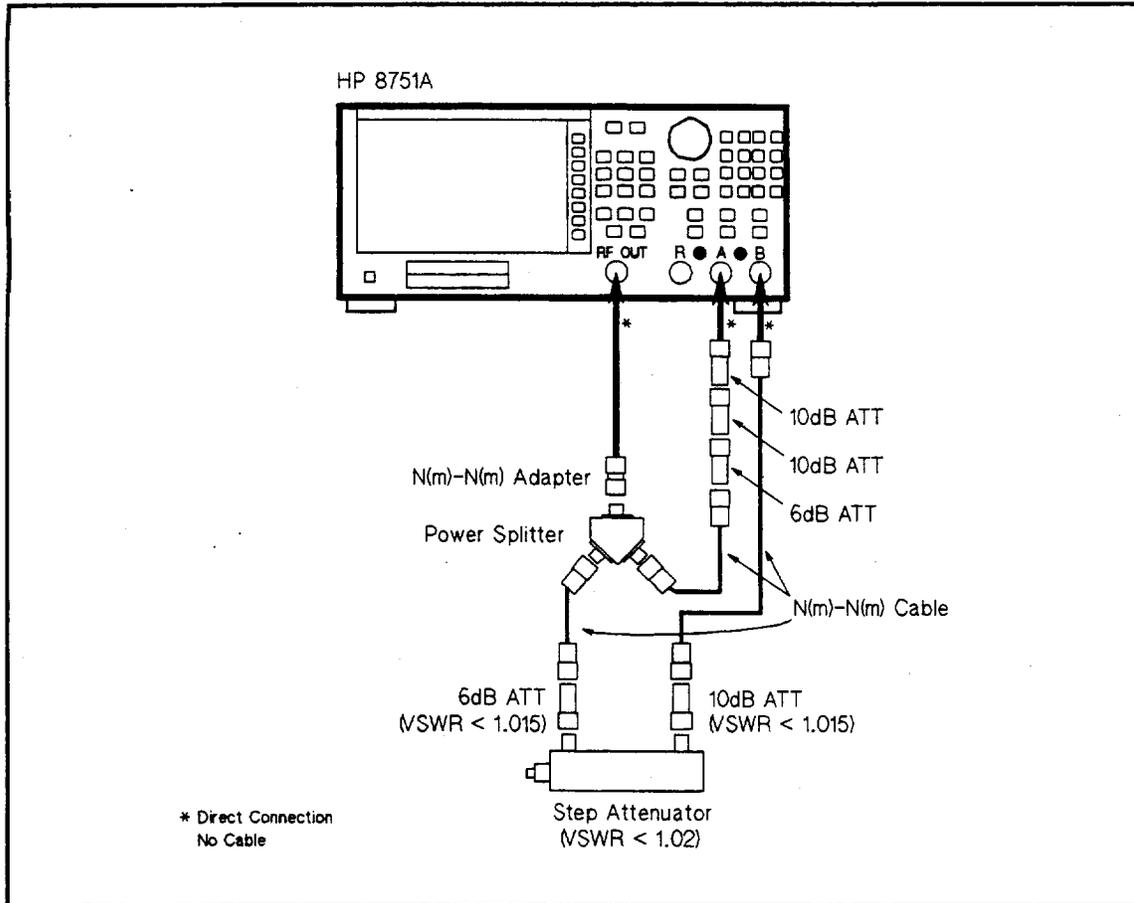

Figure 2-25. Magnitude Ratio/Phase Dynamic Accuracy Test Setup 5
a. Connect the test equipment as shown in Figure 2-25.